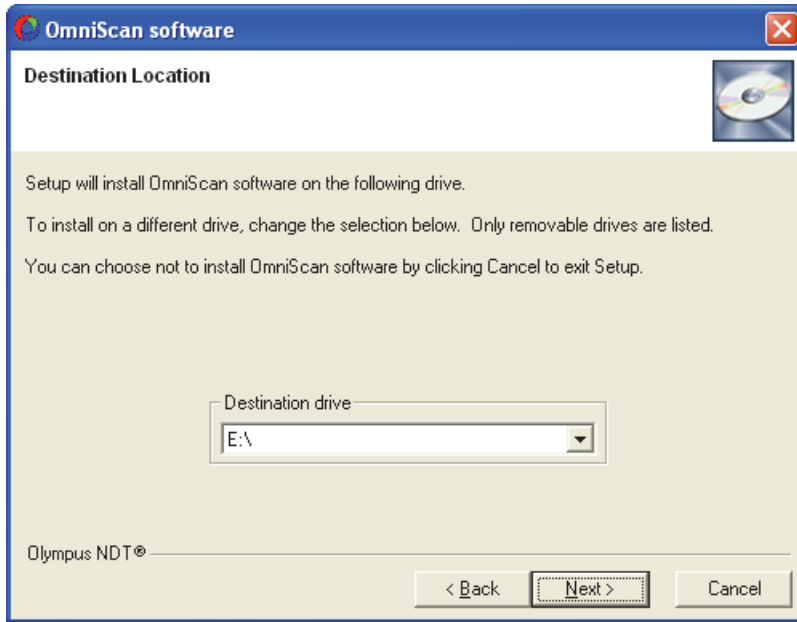

Figure 4-14 The OmniScan software Destination Location dialog box
4. In the next screen of the **OmniScan software** setup program, in the **Destination drive** drop-down list box, select the drive for your USB storage device, and then click **Next** (see Figure 4-14 on page 88).